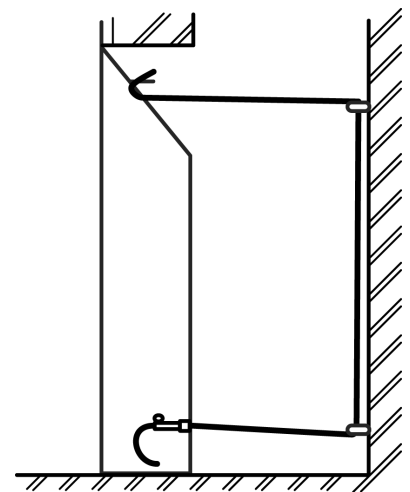

Figure 15. Cable Route
6. Thread the cables through the eyebolts. Return the cables through the holes near the bottom of the hotbox side panels - See figure 15